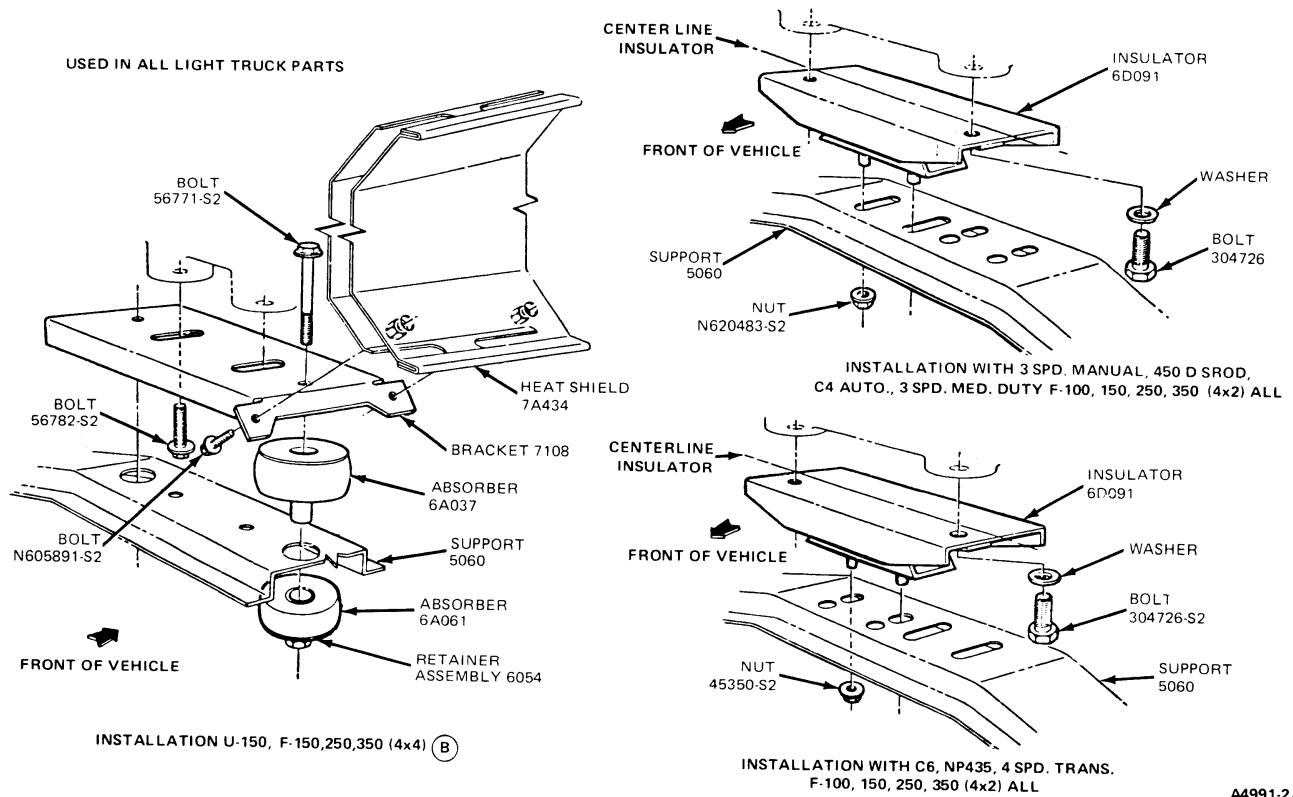

FIG. 11 Engine Rear Support—F-100—F-350 (4x2) and Bronco
1. Remove the attaching bolts, nut and washers (Fig. 11).
1. Position the insulator and retainer (Fig. 11).